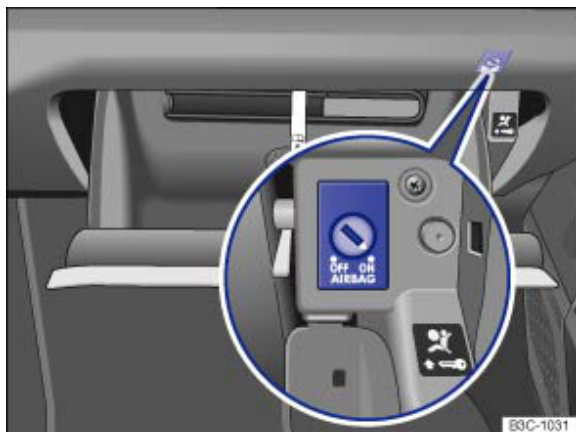

Fig. 73 In the stowage compartment on the front passenger side: key switch for disabling and enabling the front airbag on the front passenger side
- Use the spare key to turn the key switch to the **OFF** position → Fig. 73 .
- Use the spare key to turn the key switch to the **ON** position → Fig. 73 .